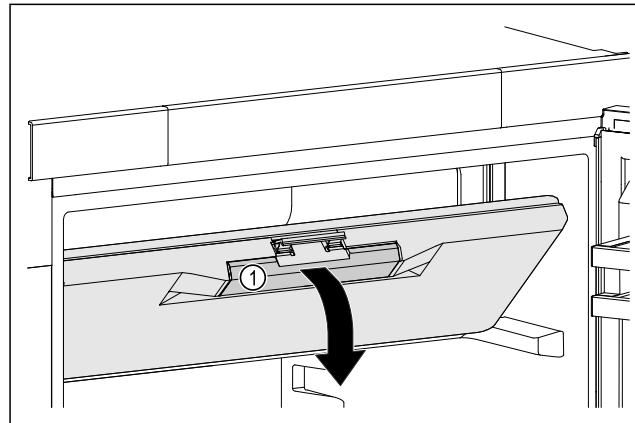

Fig. 48
- Hold the freezer compartment door by the recessed handle Fig. 48 (1).